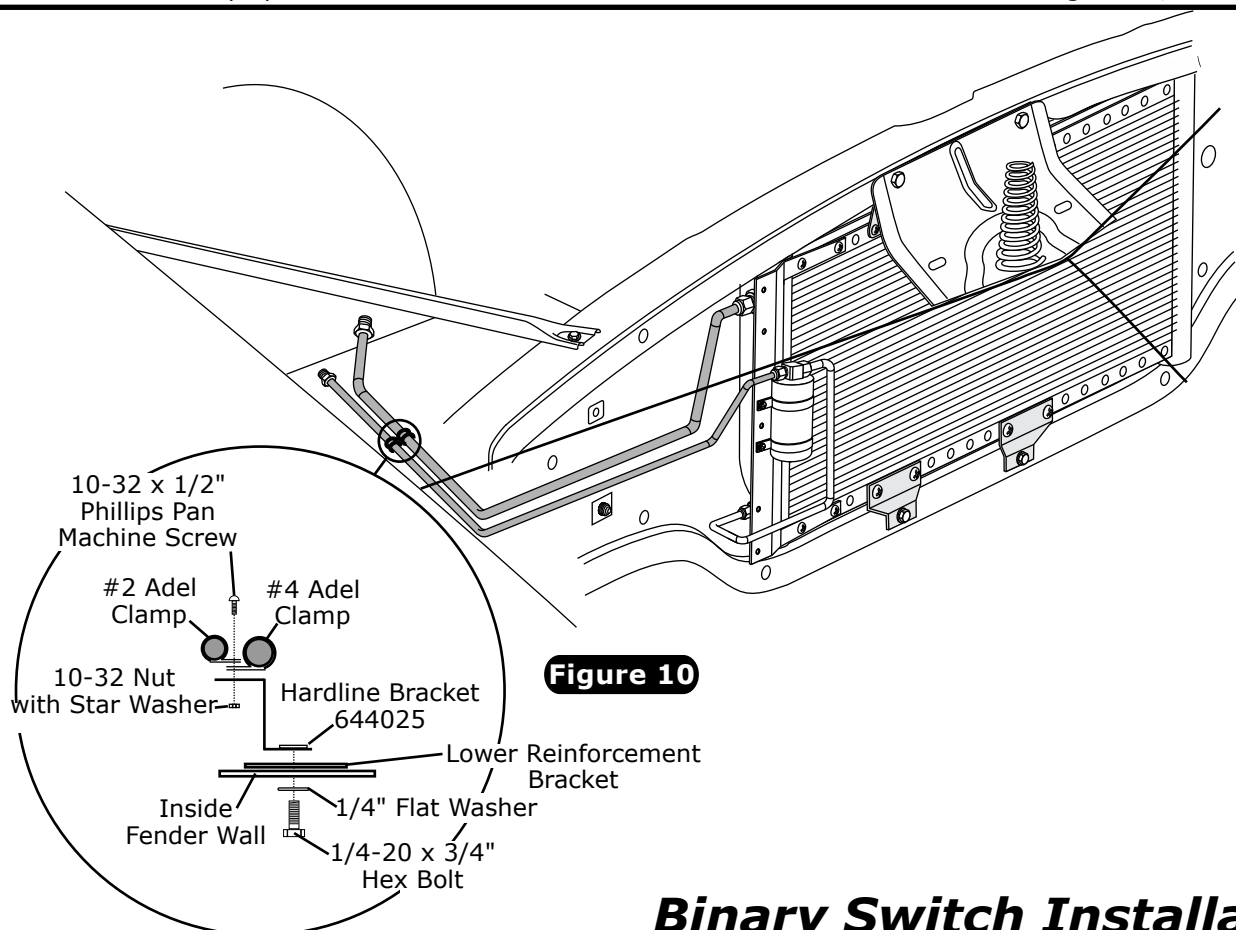

Figure 10
1. Install hardline bracket on inside fender wall using 1/4" flat washer and 1/4-20 x 3/4" hex bolt as shown in Figure 10, below. Attach the #4 and #2 Adel clamps with hardlines to the hardline bracket using a 10-32 x 1/2" Phillips pan machine screw and 10-32 nut with star washer as shown in Figure 10, below.